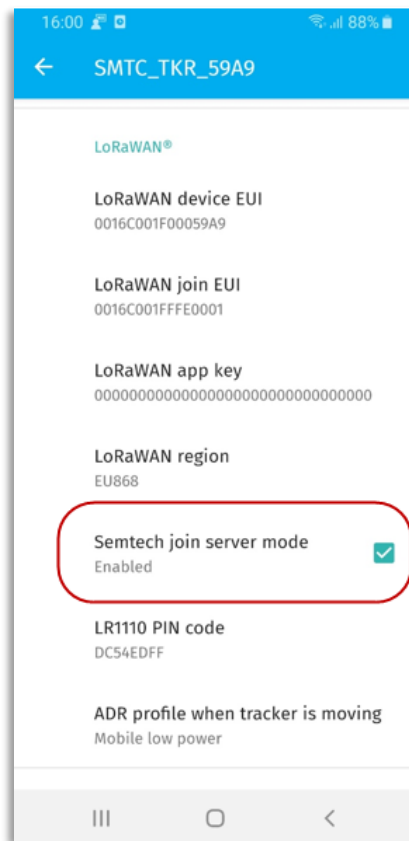

Figure 63: LoRaWAN® Settings
- If **Semtech LoRa Cloud Join Server** mode is enabled (Figure 63), the *derive keys* algorithm will be used to get the DevEUI, JoinEUI and PIN so you can claim and register your device.